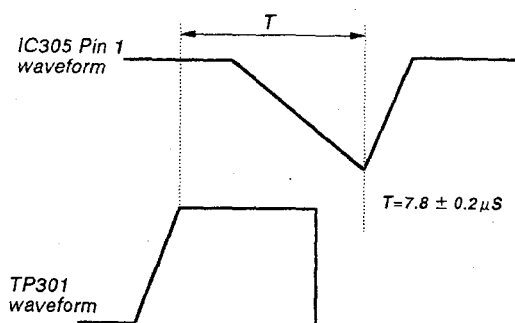

Fig. 14
4. Adjust **BGP WIDTH** so that the output waveform has the relationship shown in Fig. 14.